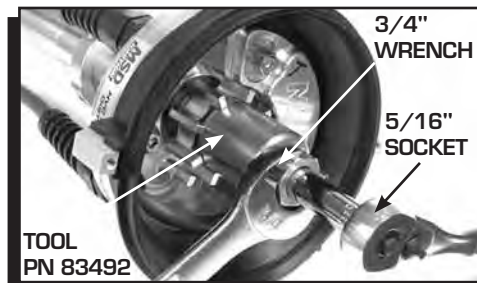

Figure 3 Removing the Reluctor.
2. Remove the reluctor. Use the installation/removal tool PN 83492 to prevent the shaft from turning (Figure 3). Remove the reluctor attaching bolt using a 5/16", 12pt deepwell socket.